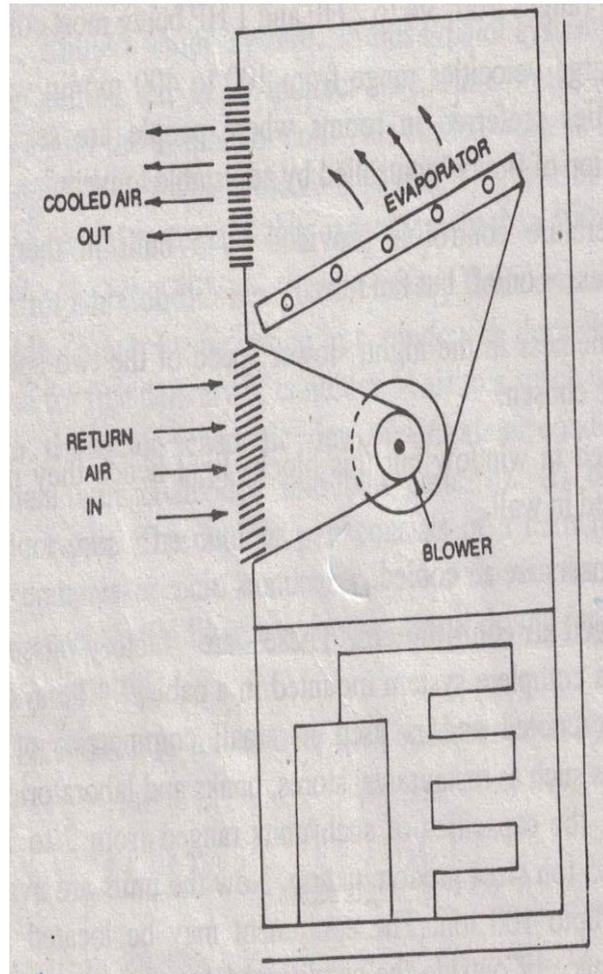

Fig. 1.3
**Console type:** The console is placed in the room below the window sill and has suitable fresh air inlet opening, provided in the walls. Fig. 1.3. shows the working principle of a water cooled console unit. The condensing unit is mounted in the bottom of the console, air blower in the middle and the evaporator coil at the top of the cabinet. The return air enters the lower grill while the cooled air is discharged at the upper grill.